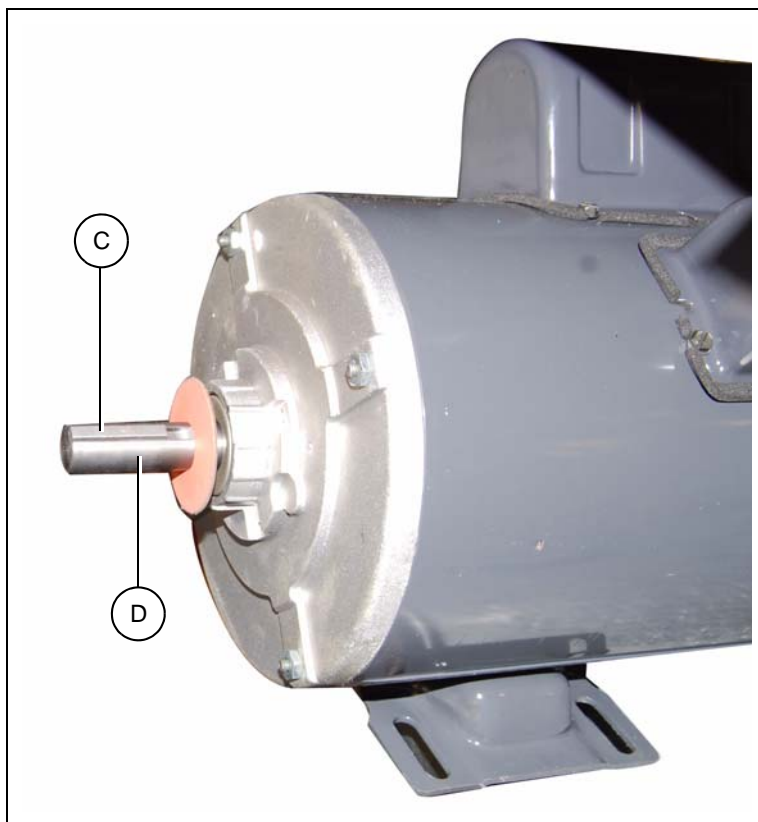

Figure 8I
2. Place the key (C) into the keyway on the motor shaft (D). (*See Figure 8I.*)